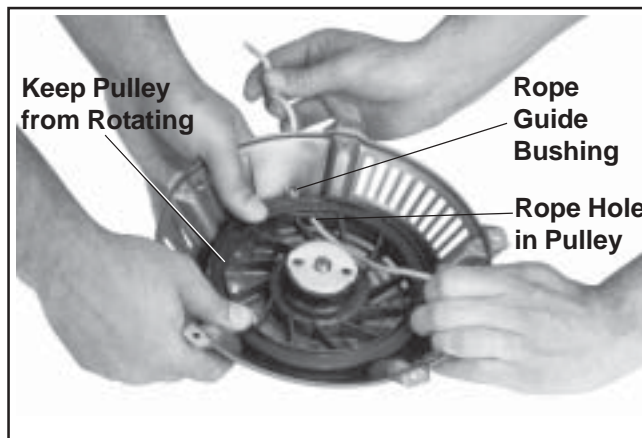

**Figure 7-2. Removing Starter Handle.**
2. Pull the rope out approximately 12 in. and tie a temporary (slip) knot in it to keep it from retracting into the starter. See Figure 7-2.